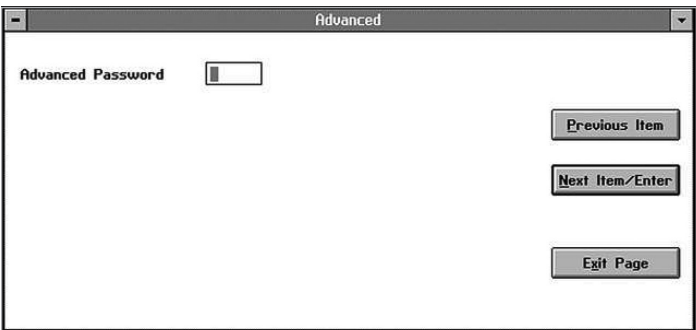

Figure 73: Password window
2. When a window similar to *Figure 73* below opens, enter your factory-level password. Contact Panametrics for the appropriate password.